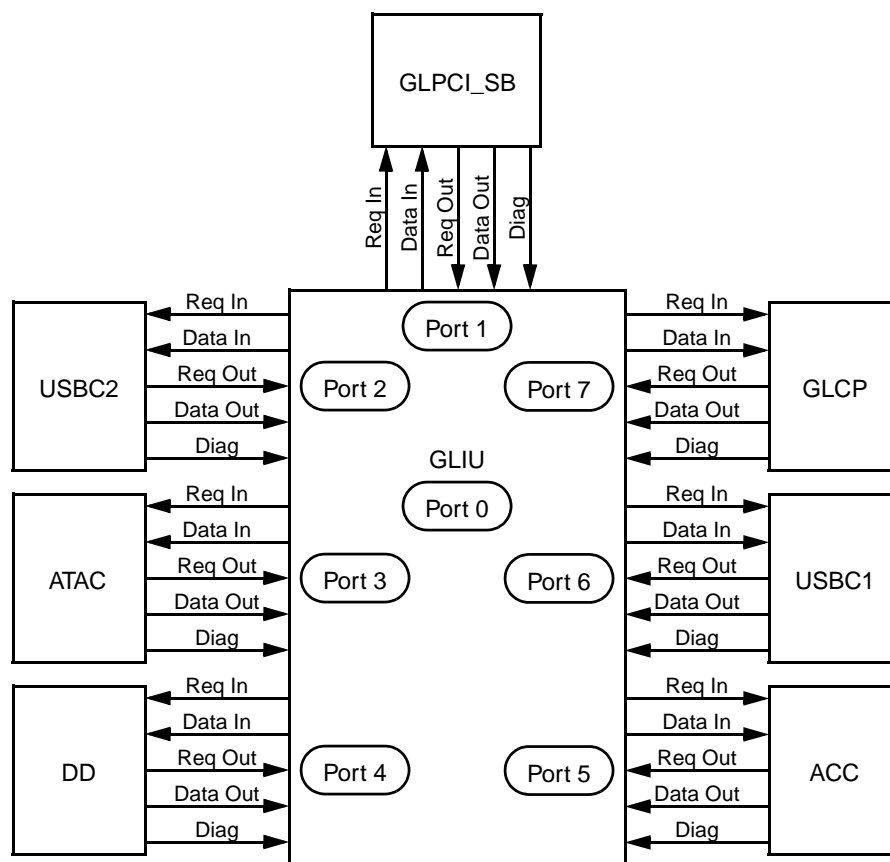

Figure 3-3. CS5535 GeodeLink Architecture Topology
The connection of the GLIU to the seven GLDs of the CS5535 is illustrated in Figure 3-3. Note the circled number next to each GLD. This is the port number of the GLD. By design convention, the GLIU is always port zero. Part of the physical to device (P2D) descriptor is a port number. When there is a hit on the descriptor address, the port number indicates which GLD to route the packet to. If there is no hit, then the packet is routed to the default port. For the CS5535, the default is always Port 4, that is, the Diverse Device (DD).